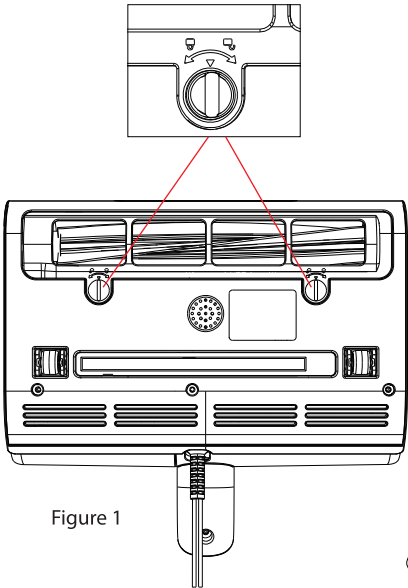

Figure 1
- Remove the Brush Cover: Turn the machine upside down and locate the two knobs. Rotate them counterclockwise and then lift and remove the brush cover (Figure 1).